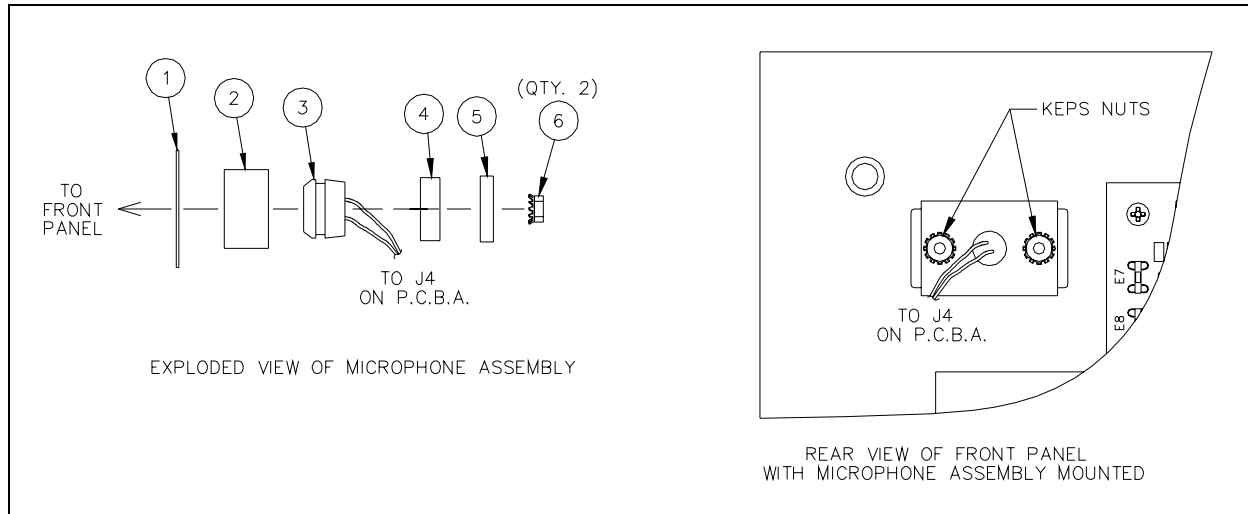

Figure 1. Microphone Assembly
4. Remove the 2 KEPS nuts from the microphone assembly and lift old microphone off the front panel. Carefully remove old microphone grille. See Figure 1.
Refer to Figure 1.